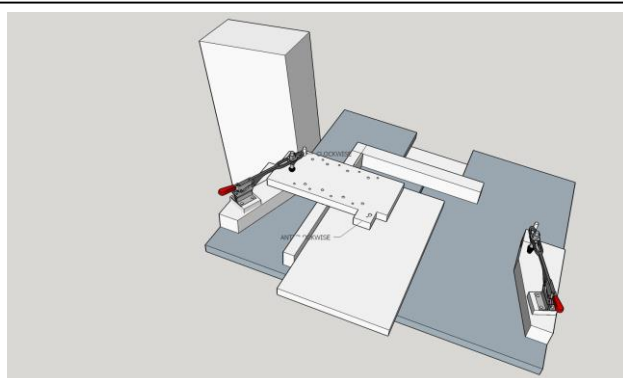

Figure 4: LHS Clockwise Pins
- d. Cut the pins as for (1) above. See figure 4.